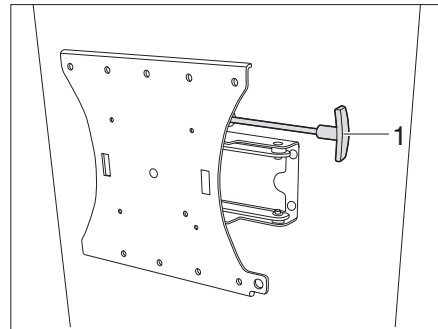

Fig. 124 Holder with jointed arm (variant 2)
- Pull the lever (Fig. 124,1) to release the flat screen from the latch.
- Push the lever (Fig. 124,1) back in to lock.